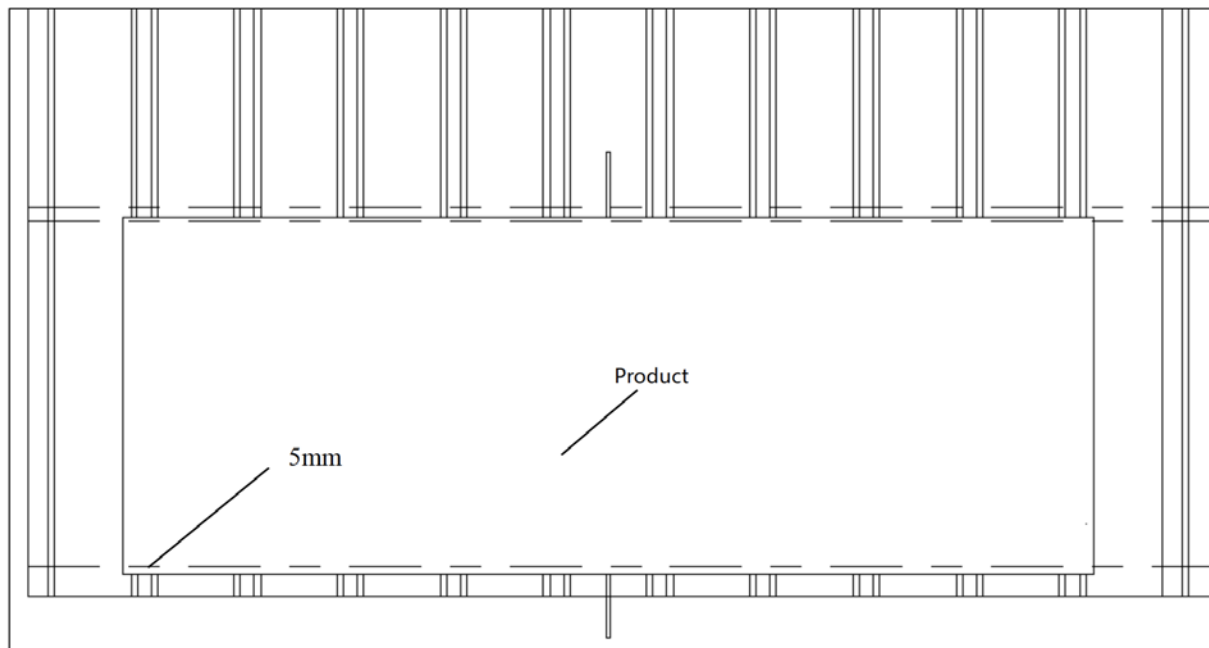

Figure 8
- ⑤ Two people should grab the four corners of the Galaxy product, lift and carry it vertically, and then adhere the Galaxy product face-up to the color steel tile. The end of the structural adhesive should be indented by 5mm from the edge of the product's long side. (Figure 8)